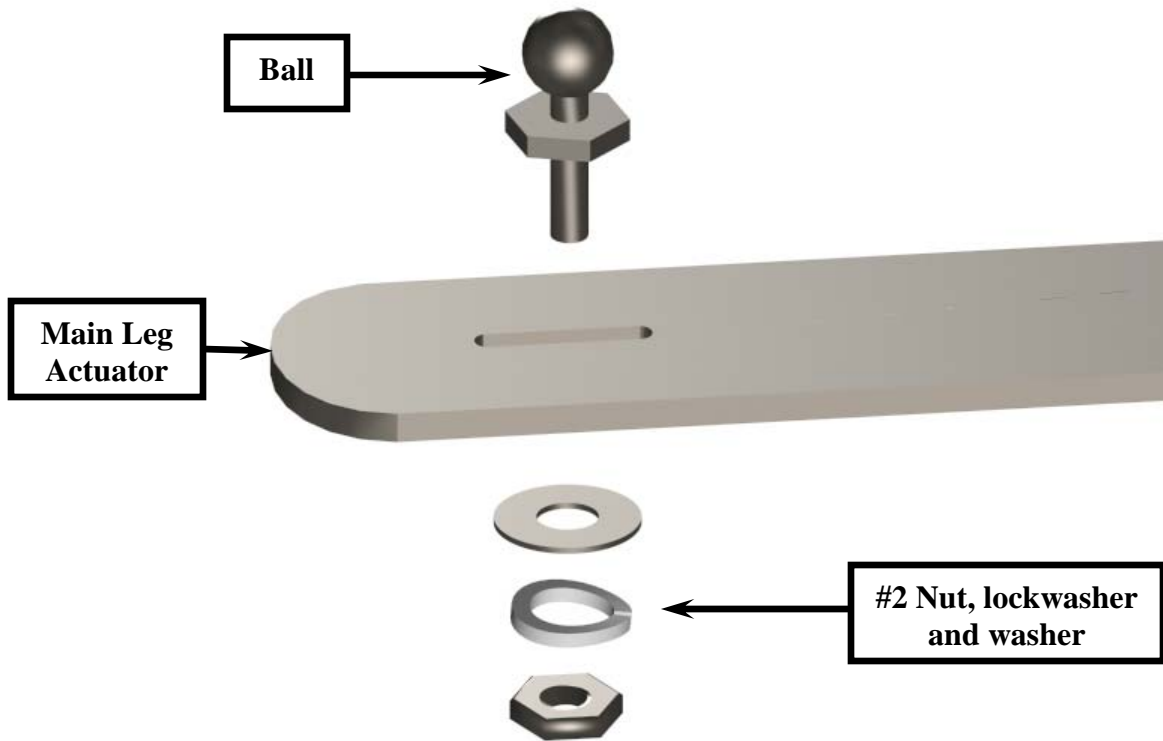

Figure 7: Leg Actuator Assembly
4. Install the Du-Bro 2-56 threaded ball link to all (4) of the main leg actuators as shown in Figure 7 below. Ensure that the ball link is centered in the slot.